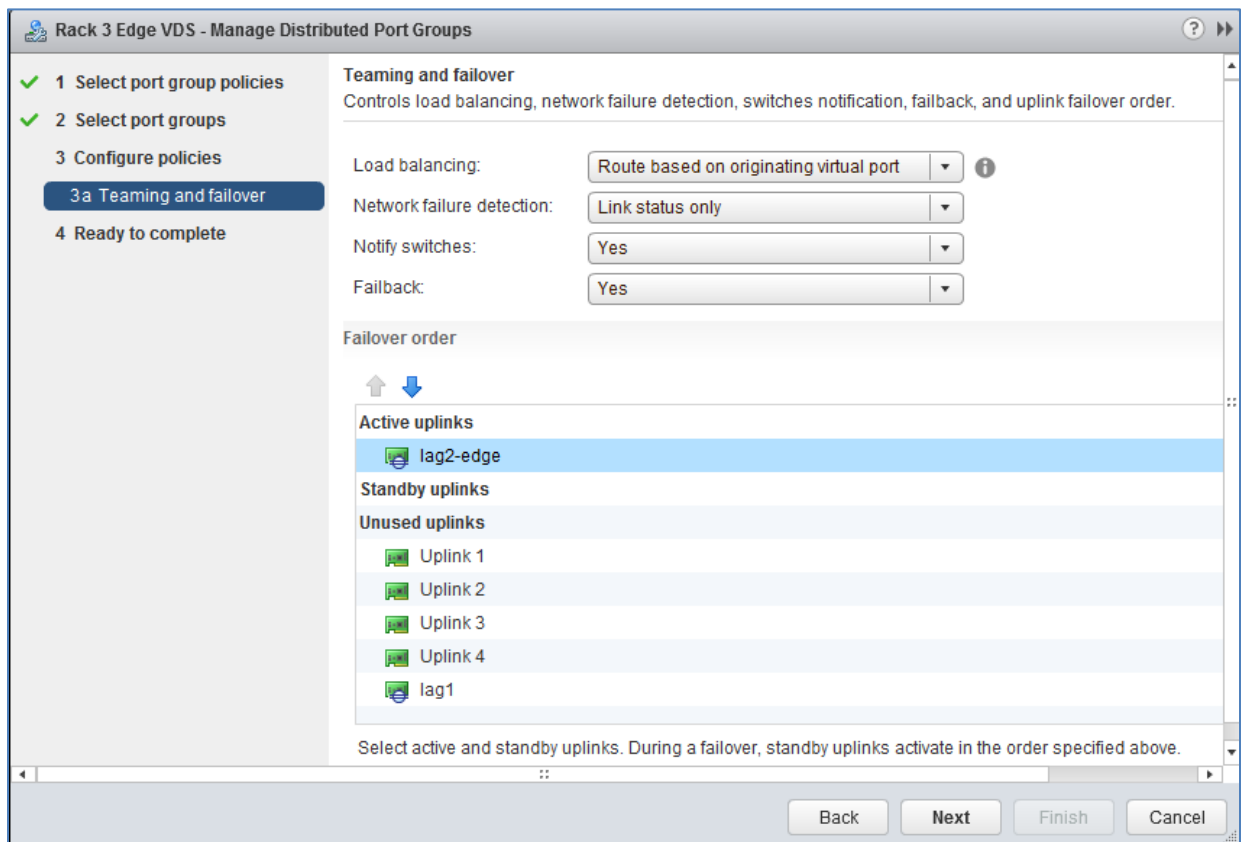

Figure 90 Rack 3 Edge VDS teaming and failover settings
6. On the **Teaming and failover** page, move **lag2-edge** up to the **Active uplinks** section. Move **Uplinks 1-4** down to the **Unused uplinks** section as shown in Figure 90.